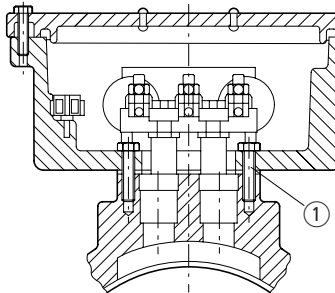

Figure 5: Terminal box with fastening screw ①
- the four fastening screws (→ Fig. 5) or